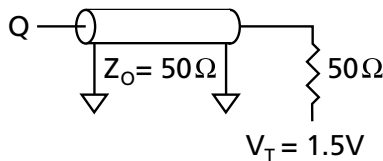
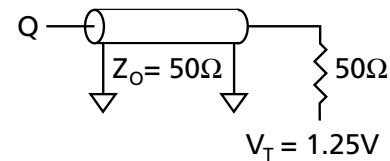

Figure 1
Figure 3
1. Test conditions as specified with the output loading shown in Figure 1 for 3.3V I/O ($V_{DDQ} = +3.3\text{V} +0.3\text{V}/-0.165\text{V}$) and Figure 3 for 2.5V I/O ($V_{DDQ} = +2.5\text{V} +0.4\text{V}/-0.125\text{V}$) unless otherwise noted.
Output load	See Figures 1 and 2
Output load	See Figures 3 and 4